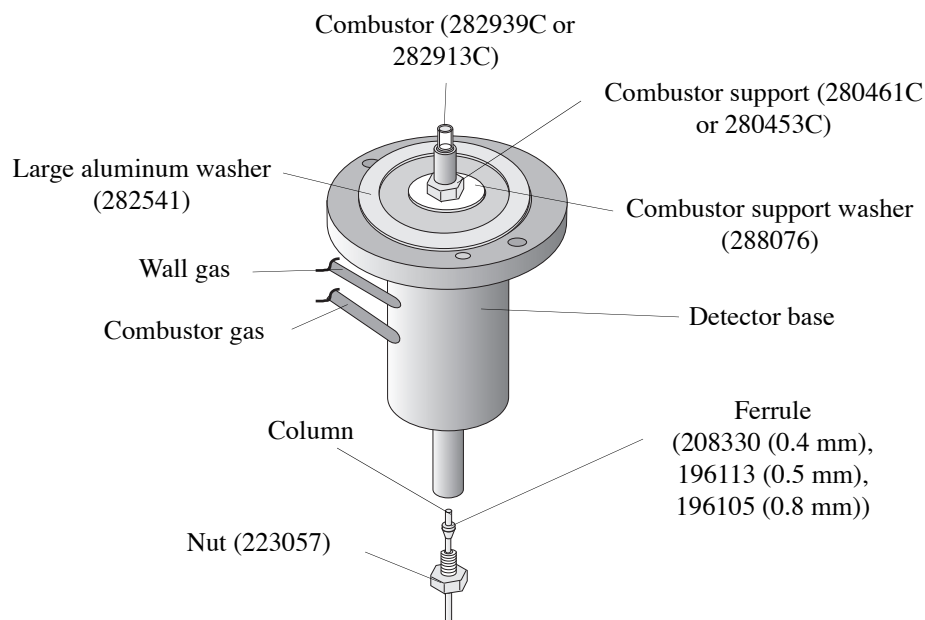

Figure 4.37. Combustor assembly
1. Slide the GC column nut (PN 223057) onto the end of the capillary column. Slide a 1/16" ferrule that matches the outer diameter of the column onto the end of the column with the tapered end facing into the GC column nut (Figure 4.37).
- Slide the GC column nut (PN 223057) onto the end of the capillary column. Slide a $\frac{1}{16}$ " ferrule that matches the outer diameter of the column onto the end of the column with the tapered end facing into the GC column nut (Figure 4.37).